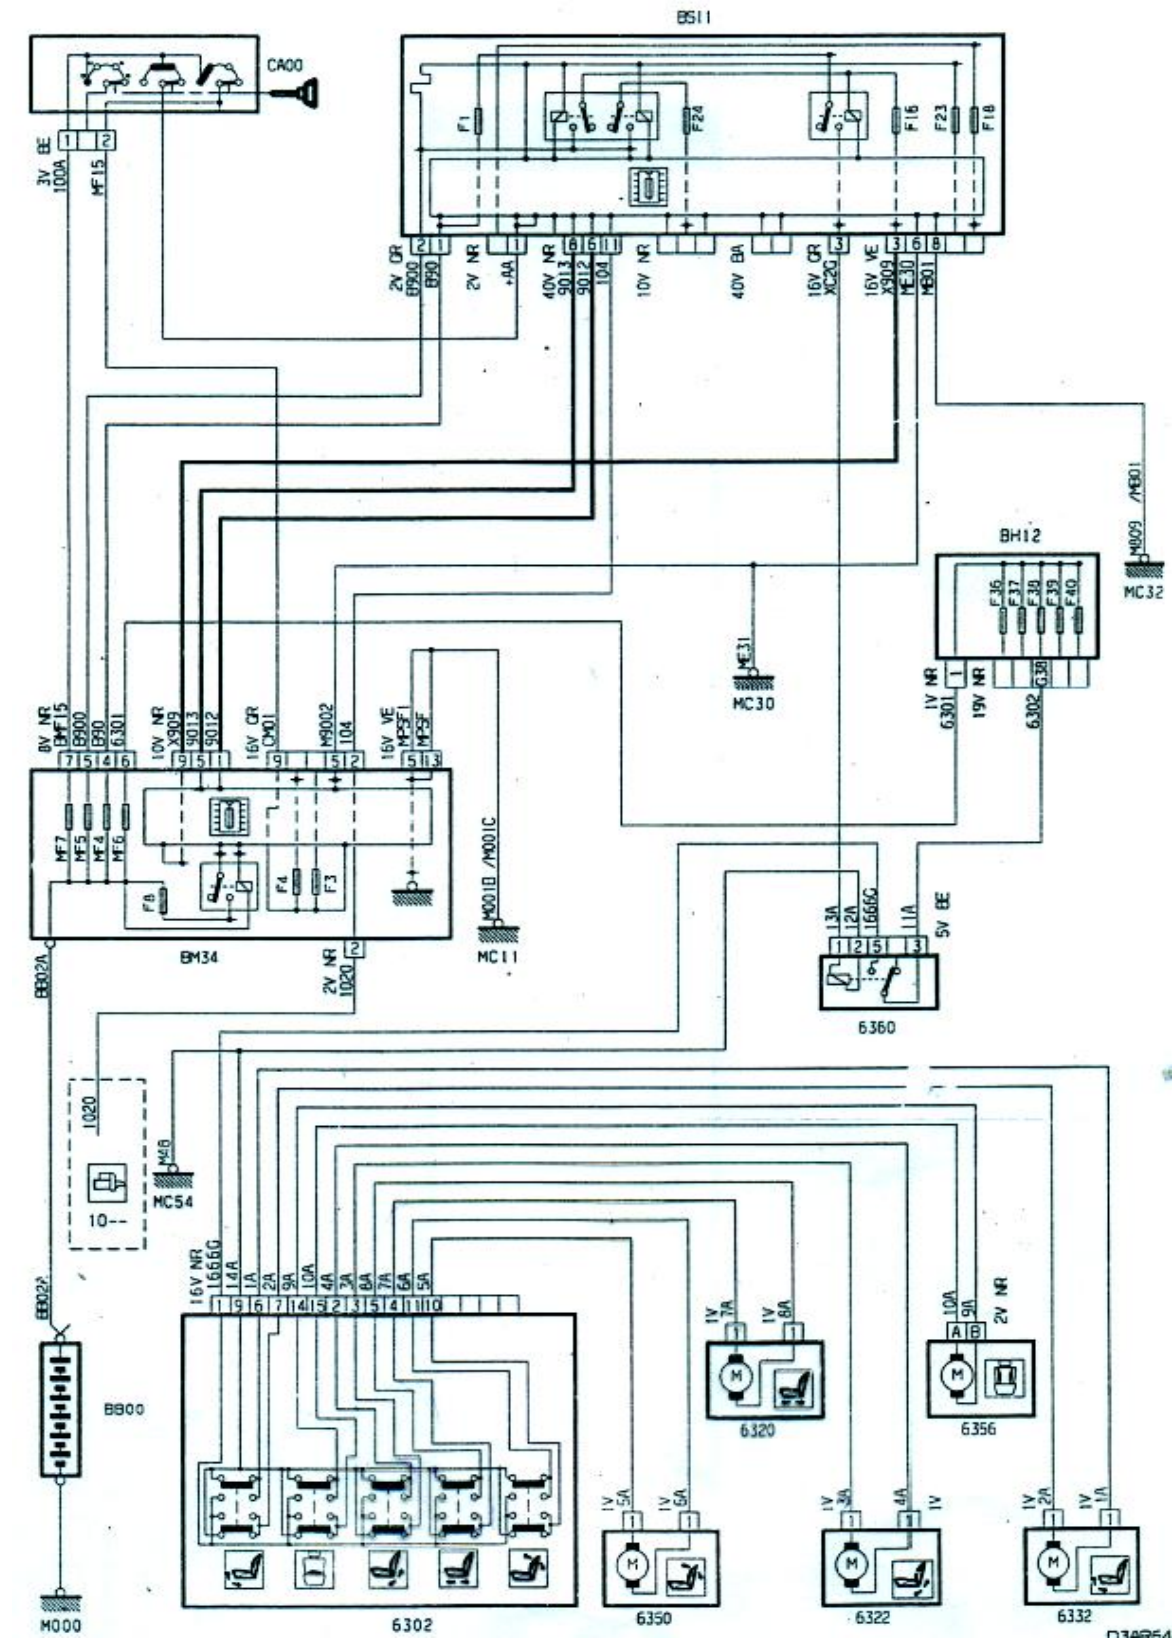

Figure 4: Seat Adjustment Circuit Diagram
Please refer to **figure 4** for the seat adjustment wiring diagram.
- b) Explain what will happen to the system if the connector at ground wire MC54 in Figure 4 is disconnected. Give your reason. (4 marks)